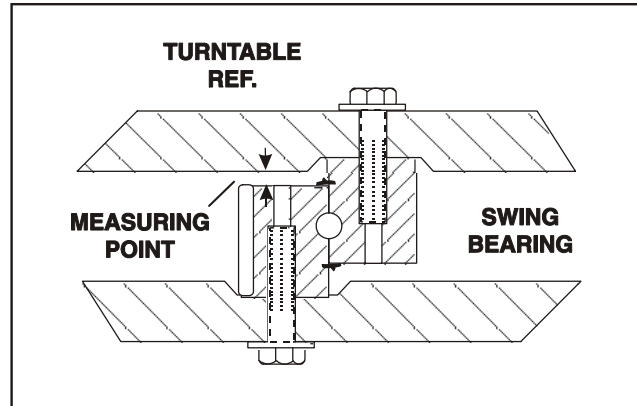
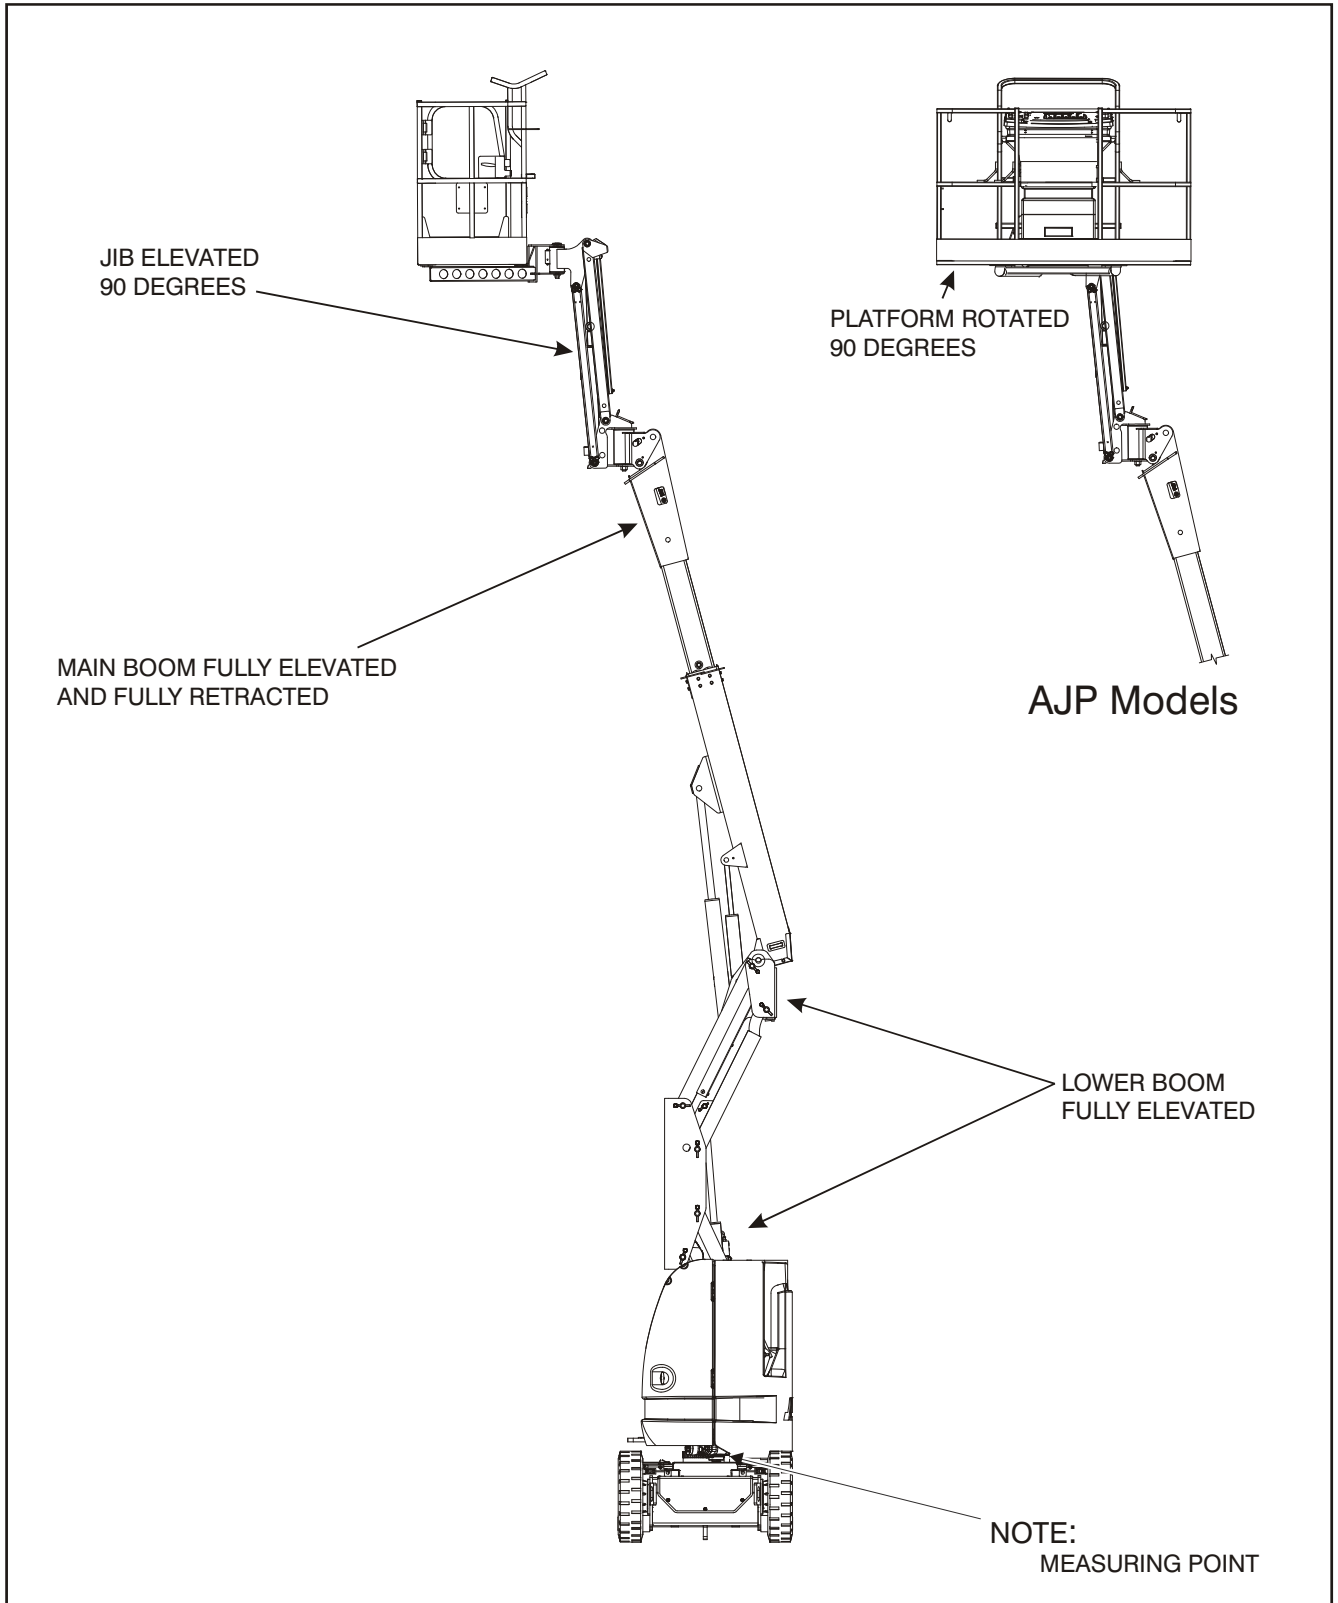
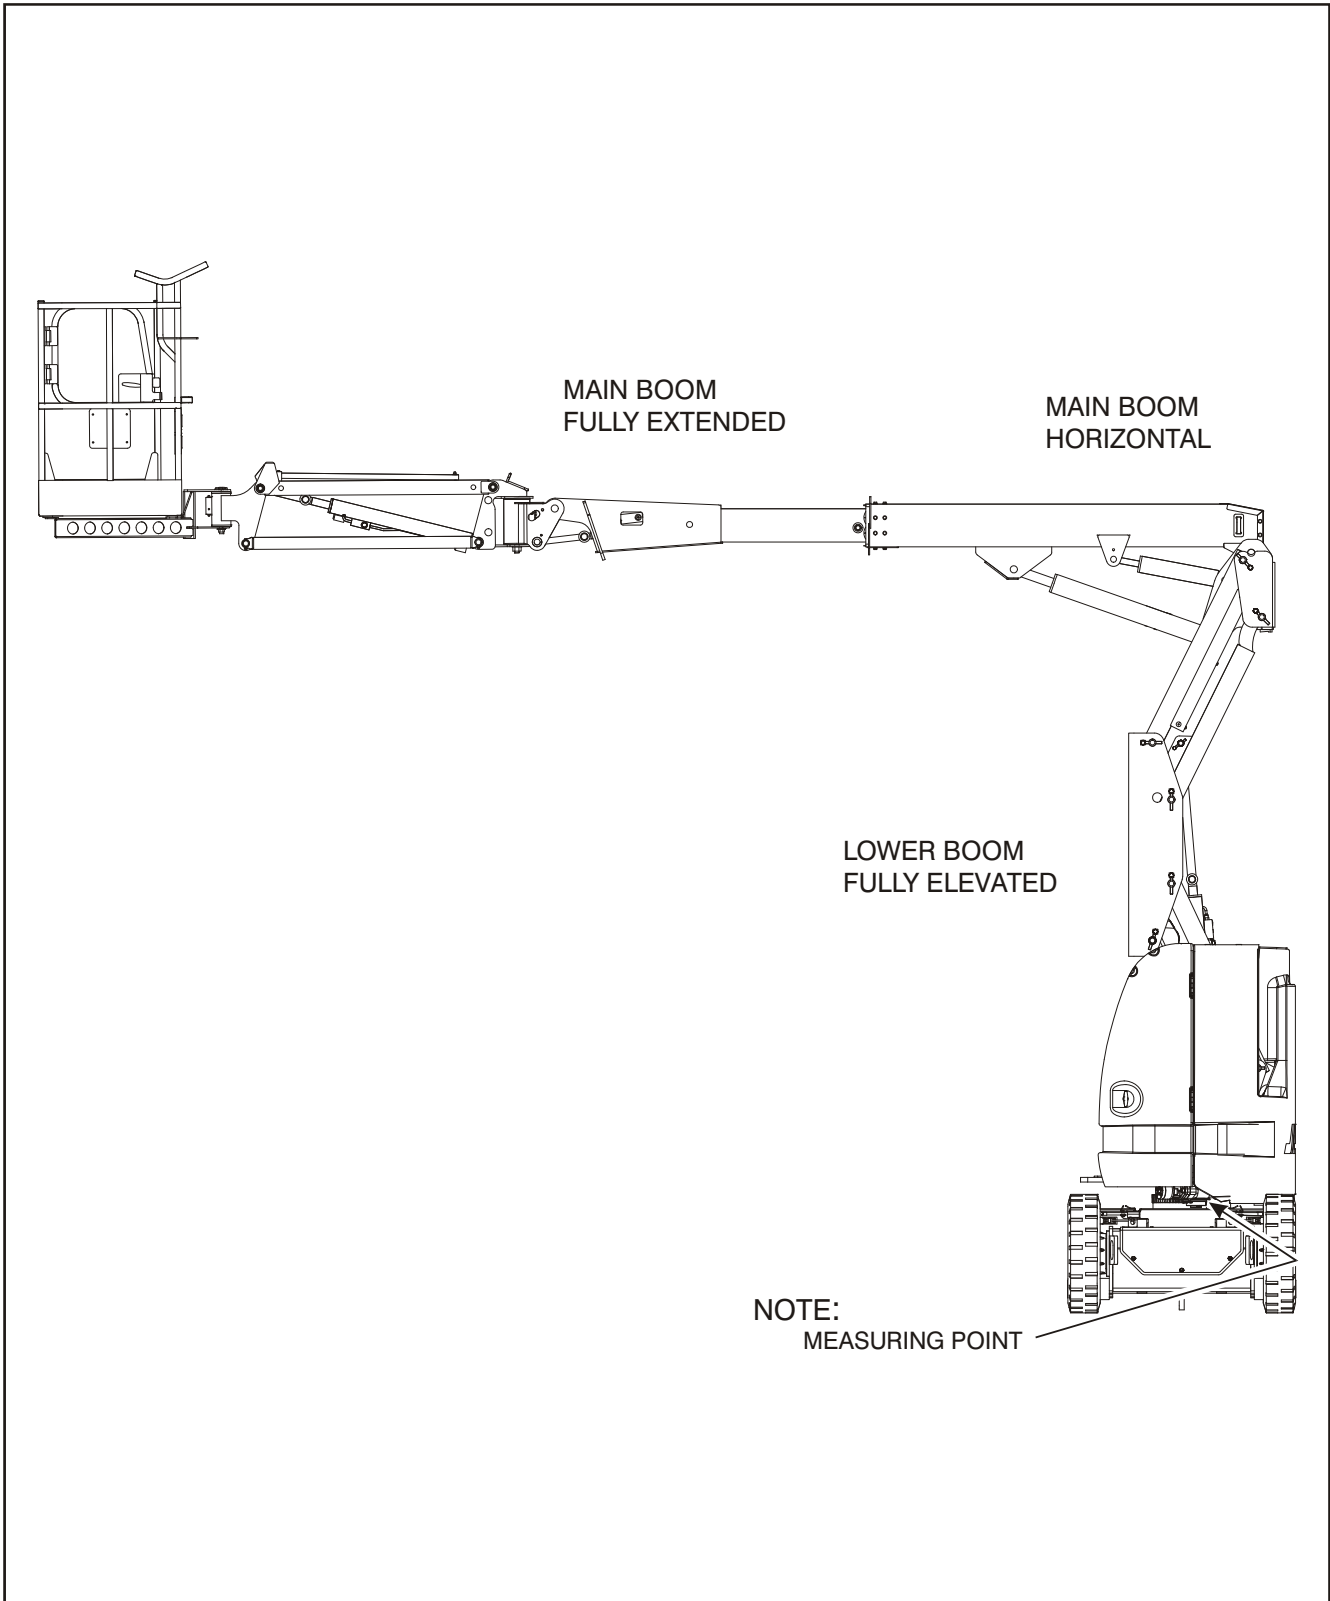

Figure 3-23. Swing Bearing Tolerance Measuring Point
Figure 3-24. Swing Bearing Tolerance Boom Placement
Figure 3-25. Swing Bearing Tolerance Boom Placement
- b. At the position indicated on Figure 3-24., Swing Bearing Tolerance Boom Placement try and insert the 0.0015" feeler gauge between the bolt head and hardened washer at the arrow indicated position.
- b. At the positions indicated on Figure 3-24., Swing Bearing Tolerance Boom Placement try and insert the 0.0015" feeler gauge between the bolt head and hardened washer at the arrow indicated position.
- d. At the position indicated on Figure 3-24., Swing Bearing Tolerance Boom Placement try and insert the .0015" feeler gauge between the bolt head and hardened washer at the arrow indicated position.
1. With the boom positioned over the side of the machine, the Upper Boom horizontal with telescope fully extended and Tower Boom raised half way (approx 37°) See Figure 3-25., Swing Bearing Tolerance Boom Placement, using a magnetic base dial indicator, measure and record the distance between the swing bearing and turntable. (See Figure 3-23., Swing Bearing Tolerance Measuring Point)
2. At the same point, with the boom positioned over the side of the machine, the Upper Boom fully extended and fully retracted, the platform rotated max. to the side, and the Tower Boom fully elevated, (See Figure 3-24., Swing Bearing Tolerance Boom Placement) using a magnetic base dial indicator, measure and record the distance between the swing bearing and turntable (Figure 3-23., Swing Bearing Tolerance Measuring Point).